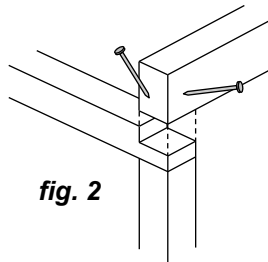

fig. 2
Step 2: Select Back and Front Base Plates 1.810m (Green), Front Top Plate 1.810m (Red) and Back Top Plate (70x45mm). With one End Frame lying on the ground, nail plates to frame, two 75mm nails per joint. Ensure Green joins to Green and Red joins to Red. See (**fig. 2**) for nailing detail on Top Back Plate (70x45mm).
Position Roof Sheets as shown in **fig. 1**. When fitting Clear Panel ensure it **OVERLAPS** Roof Sheets. Rivet sheet joints, one rivet 200mm from edge front and back. When riveting Clear Panel to Roof Sheets use sealed rivet with steel washer (**fig. 2**).